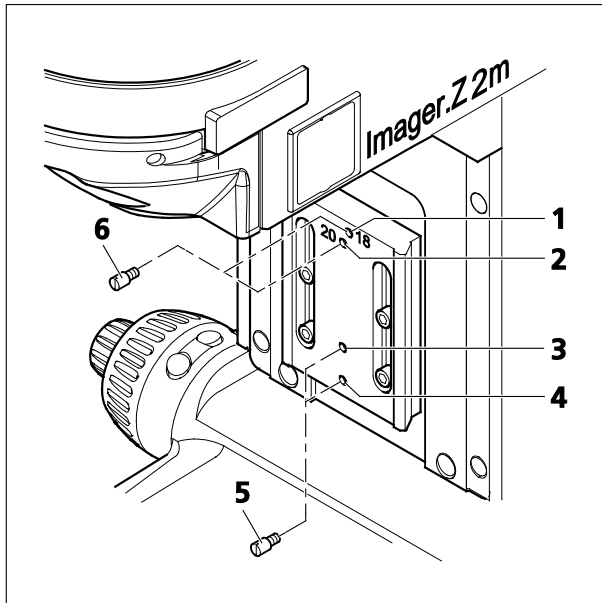

Fig. 30 **Setting dovetail guide stops**
Lower stop screw (Fig. 30/5):
- When employing the reflected-light / transmitted-light stage carrier with condenser carrier 430707-0000-000, use a slot-head screwdriver to screw the lower stop screw into the upper tapped hole (Fig. 30/3).
- When employing the reflected-light or reflected-light/transmitted-light stage carrier 430704-9901-000 or 430701-9901-000, screw the lower stop screw into the lower tapped hole (Fig. 30/4).
Upper stop screw (Fig. 30/6):
- When an 18-mm thick microscope stage is used, screw the upper stop screw into the tapped hole marked with number "18" (Fig. 30/1).
- When a 20-mm thick microscope stage is used, screw the upper stop screw into the tapped hole marked with number "20" (Fig. 30/2).